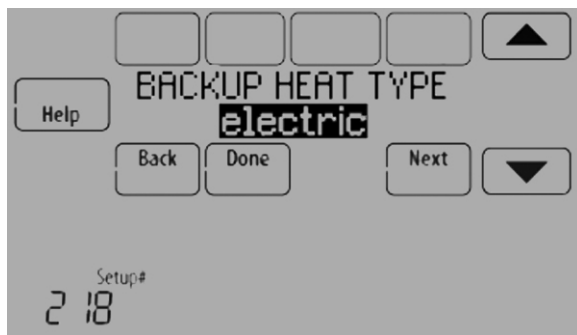

Fig. 113.
6. Select the Backup Heat Type. See Fig. 113.